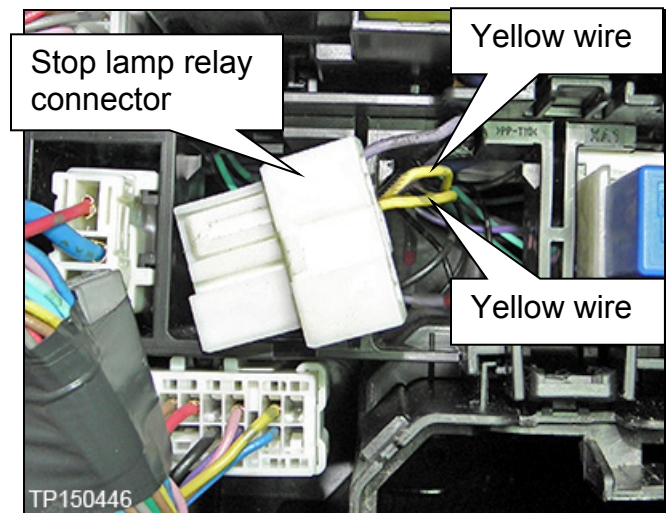

Figure 5
6. Locate the two yellow wires on the bottom of the stop lamp relay connector (Figure 5).